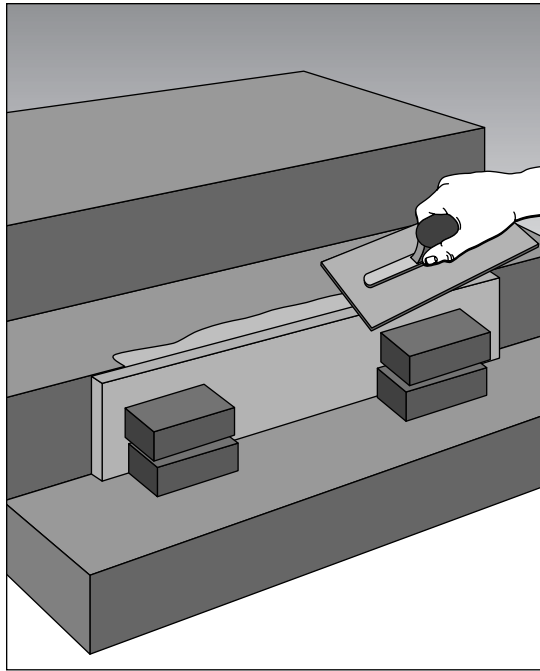

Figure 17-1:
- 6. Use several bricks to hold the form boards firmly in place (see Figure 17-1).**